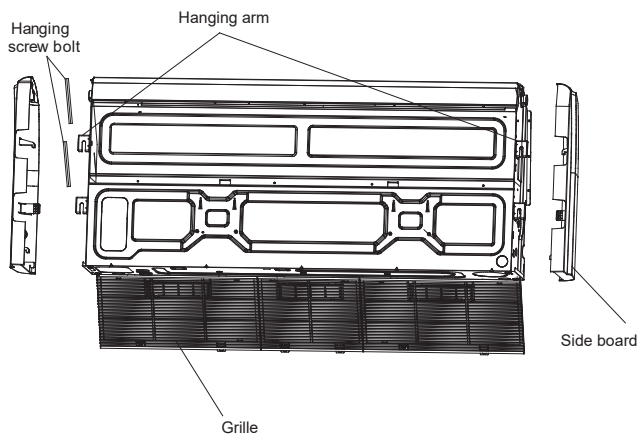

Fig. 5-8
- Remove the side board and the grille. (Refer to Fig. 5-8.)